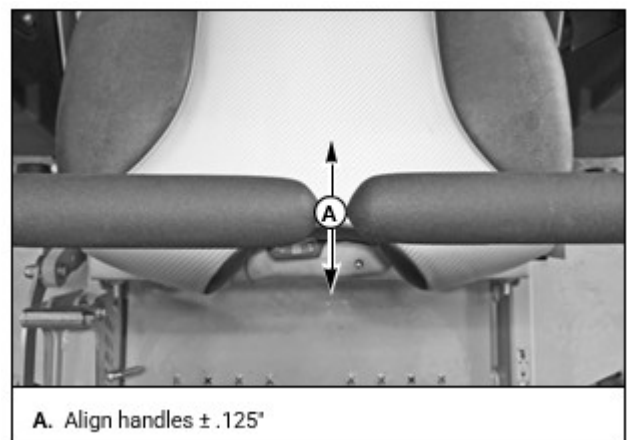

Figure 9
2. The steering control levers should be adjusted so that they align vertically with each other when in the neutral position. [Figure 9]